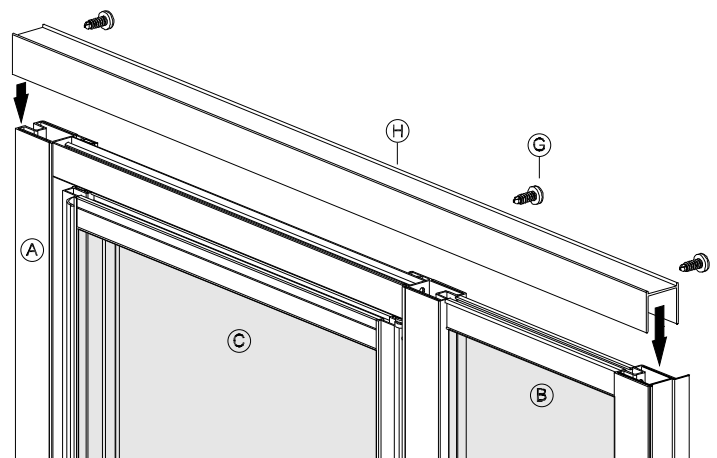

figure 6
Measure opening width at top of unit and trim Header (H) to length minus 1/16 of an inch. Position Header (H) into place as shown in figure 6 above and secure utilizing three (3) self drilling screws (G).